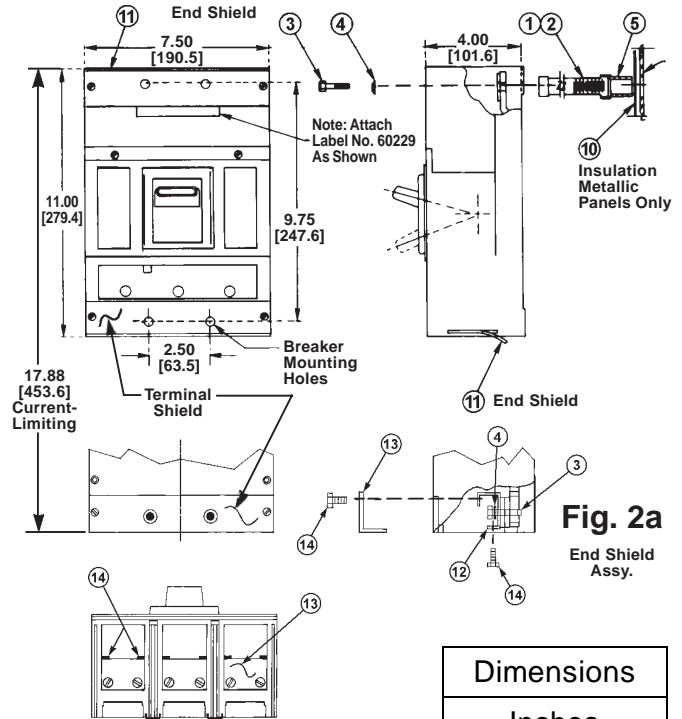

Fig. 2a
- 4a. NOTE: For Current Limiting Circuit Breakers **Load end only**. Attach end shield bracket (Item 12), to the connector mounting surface using (Item 3) bolt and (Item 4) lockwasher as shown in fig. 2a. Tighten the 5/16-18 bolt finger tight only.